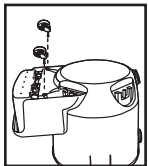

FIGURE 5
3. Take two casters and place a flat washer over the stem of each caster. Install casters into accessory caddy by inserting the caster stems into the holes provided. Apply pressure and twisting motion until the casters snap into place. **FIGURE 5.**